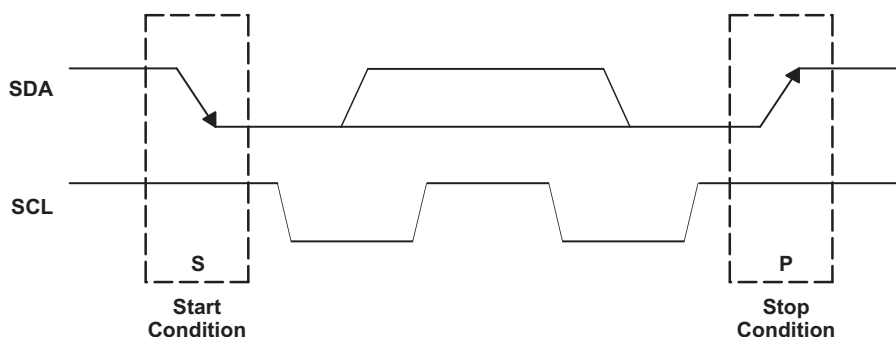

Figure 9. I2C Start and Stop Conditions
The basic I2C start and stop access cycles are shown in Figure 9.
- The *master* initiates data transfer by generating a *start condition*. The *start condition* exist when a high-to-low transition occurs on the SDA line while SCL is high, as shown in Figure 9. All I2C-compatible devices should recognize a *start condition*.
- To signal the end of the data transfer, the master generates a *stop condition* by pulling the SDA line from low to high while the SCL line is high (see Figure 9). This releases the bus and stops the communication link with the addressed slave. All I2C compatible devices must recognize the *stop condition*. Upon the receipt of a stop condition, all devices know that the bus is released, and they wait for a *start condition* followed by a matching address.